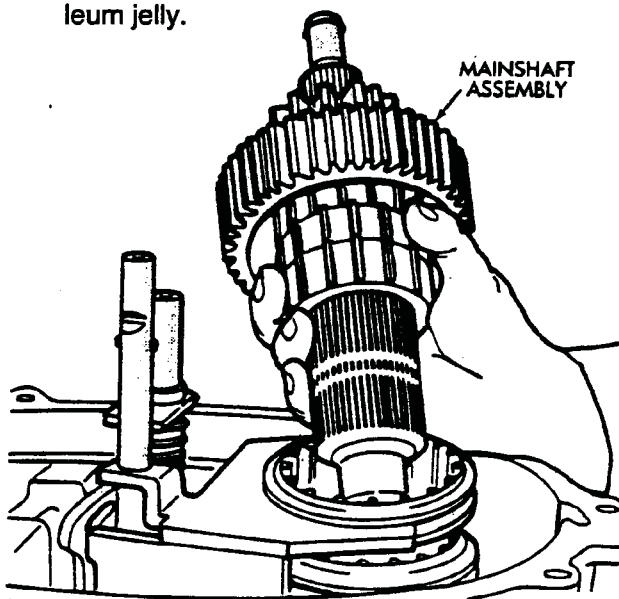

Fig. 4-56 Install Mainshaft Assembly
53. Install the mainshaft assembly (Fig. 4-56). Be sure the shaft is seated in the input gear.